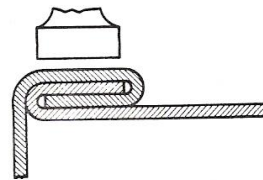
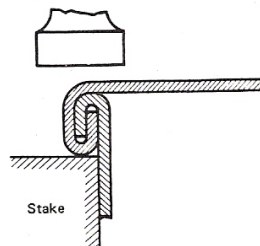

Figure 19 - Forming Analysis 2
Figure 20 - Forming Analysis 3
2. When the seam has been completely flattened, tighten the joint with a light hammer (Figure 19), remove the container from the stake or bar, and rest the edge on a flat stake. Now tap the bottom lightly to square and straighten the seam (Figure 20).